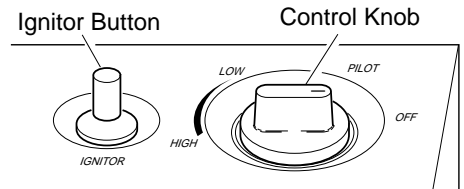

Figure 16 - Control Knob In The OFF Position
- Turn control knob clockwise to the OFF position (see Figure 16).
- Wait five (5) minutes to clear out any gas. Then smell for gas including near the floor. If you smell gas, **STOP!** Follow "B" in the safety information at left. If you don't smell gas, go to the next step.
- Press in control knob and turn counterclockwise to the PILOT position. Keep control knob pressed in for five (5) seconds (see Figure 16).